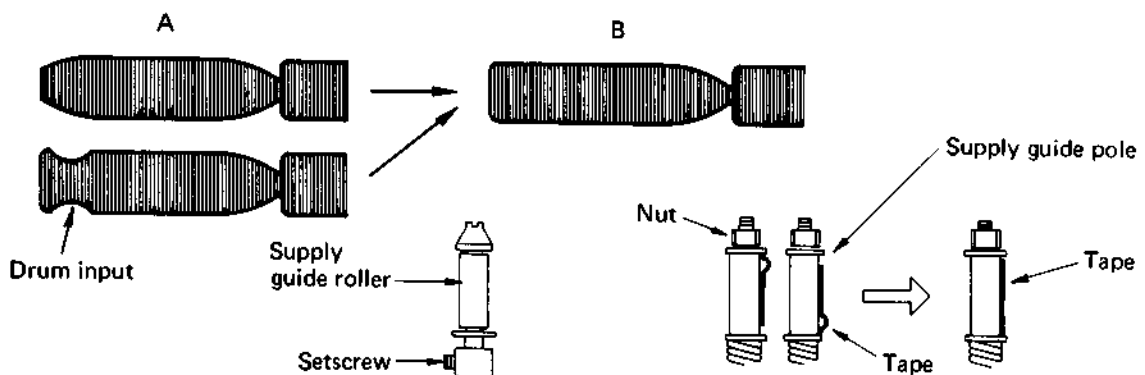

Fig. 5-37 Drum input adjustments
2. Refer to Fig. 5-37. Examples of incorrect waveforms are shown by A.
Align the upper flange of the guide pole with the tape as shown in Fig. 5-37.